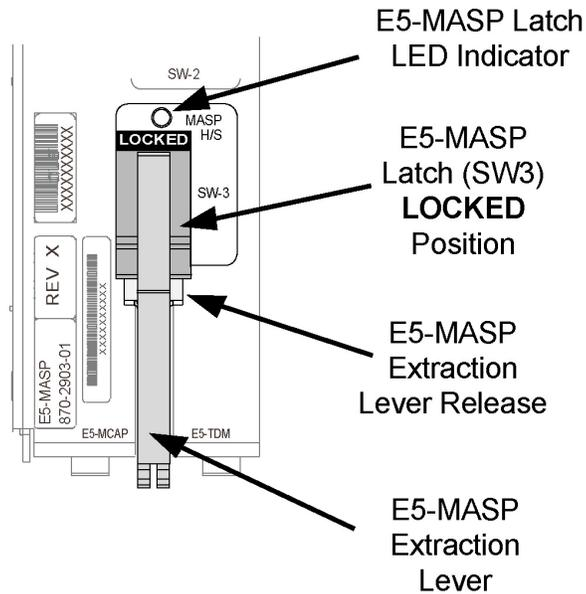

Figure 26: E5-MASP Card Inject/Eject Hardware Switch, LOCKED
- j) Slide the MASP H/S switch (SW3) down to the LOCKED position (see Figure 26: E5-MASP Card Inject/Eject Hardware Switch, LOCKED).